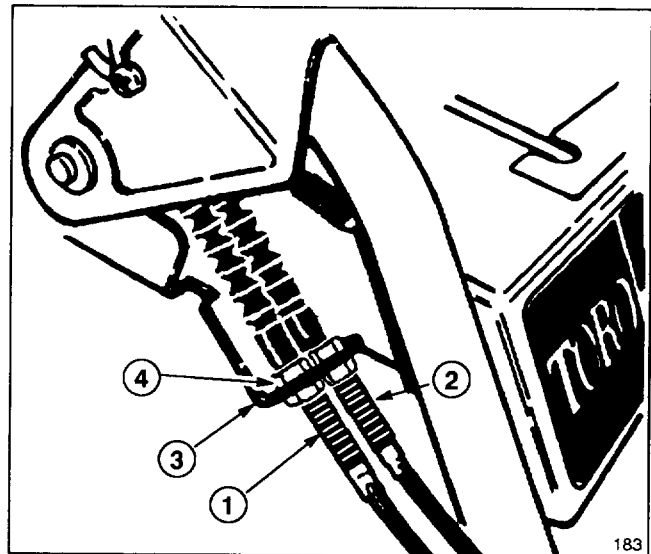

Figure 30
4. Loosen upper jam nut securing auger/impeller cable to mounting bracket (Fig. 30).
## ADJUSTING TRACTION DRIVE BELT (Fig. 30)
8. On control cable which corresponds to belt being replaced, loosen jam nuts securing cable to bracket (Fig. 30). Cable must be free to slide in bracket when changing belt(s).